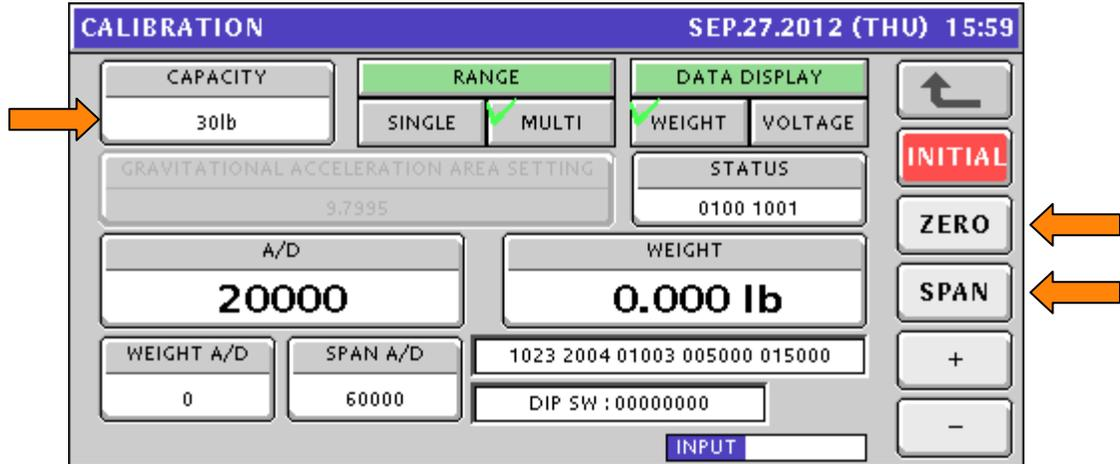

Figure 9.1. Calibration Screen
4. Scroll down and select **CALIBRATION** (page 2/3). See Figure 9.1.